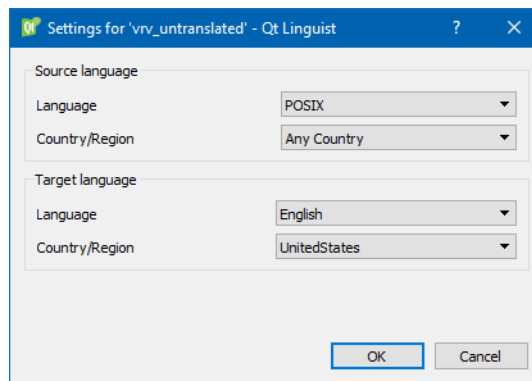

Figure 1-7. Linguist settings dialog box
2. In the Qt Linguist window, choose **File** → **Open**. Select the file *.translations/product_untranslated.ts*. The Settings for *filename* dialog box opens (Figure 1-7).